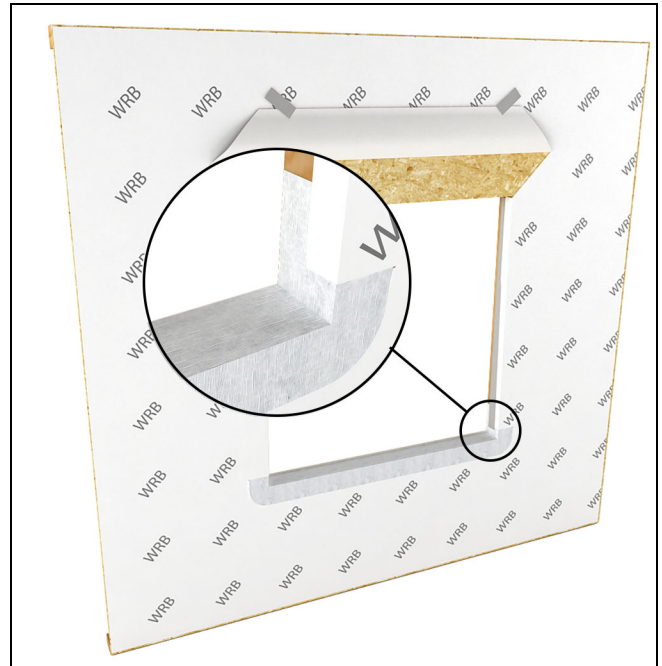

Figure 6
6. Wrap side flaps to the interior and staple in place about 1 1/2" (38) from the interior edge of the opening. Cut the excess off near the staple so that a 1" - 1 1/2" (25-38) strip of bare wood is exposed. Tape this edge with seam seal tape. See Figure 6.